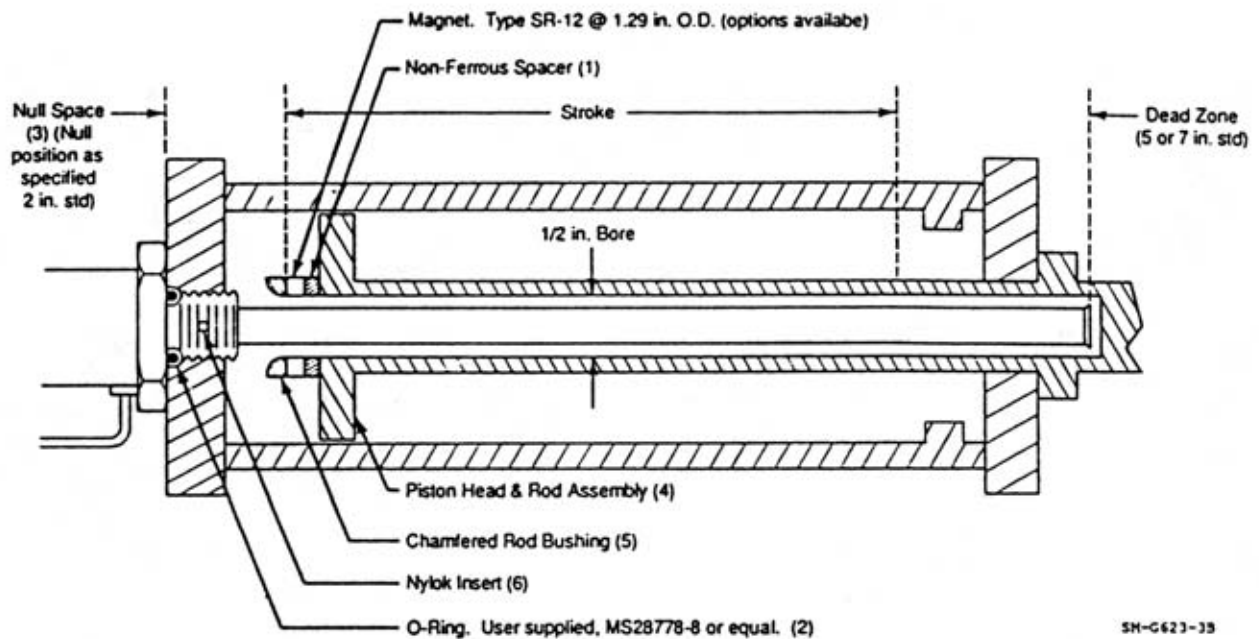

Figure 3-9. Typical Cylinder Installation, Piston at Full Retraction
This subsection provides information for cylinder applications. The rigid transducer installation procedure can be used as a guide for cylinder installations. Figure 3-9 shows a typical cylinder installation. Review the following before attempting a cylinder installation.
4. The piston head shown in Figure 3-9 is typical. For some installations, depending on the clearances, it may be desired to countersink the magnet.